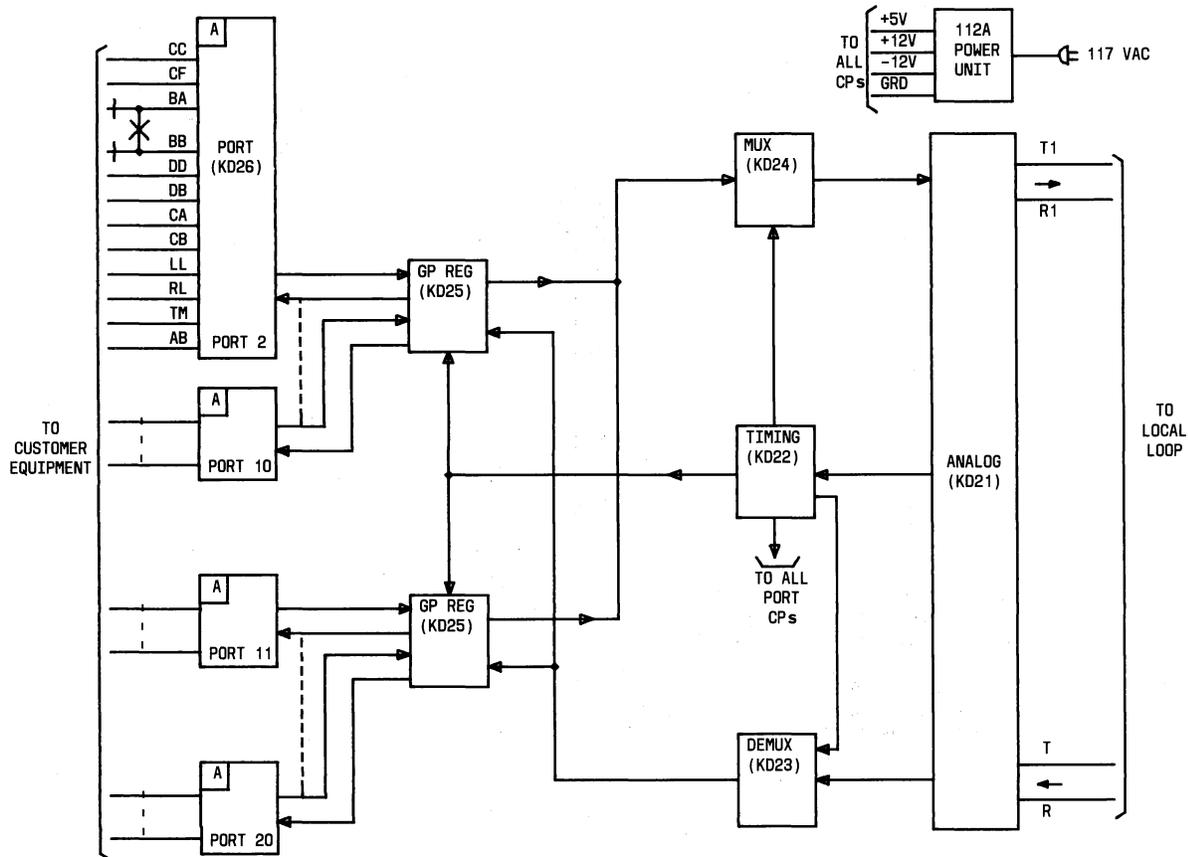

Fig. 10—Functional Block Diagram of a 510A-Type DSU
**3.02** A functional block diagram of the 510A-type DSU is shown in Fig. 10 and is described as follows. The 510A-type DSU exchanges customer data at any or all of the 19 ports (ports 2 through 20) at a data rate corresponding to one of the three DDS substrate speeds (2.4, 4.8, or 9.6 kb/s) which is chosen at the time of installation. Once the basic data rate is selected for the 510A-type DSU, all ports will operate at this data rate or, in the case of 9.6- and 4.8-kb/s ports, optioned to run at one-half the basic data rate. In this manner,